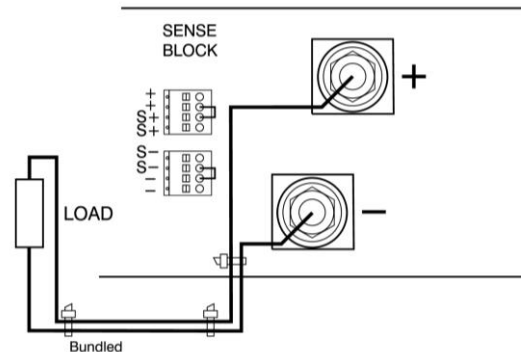

Figure 7.4: Local sensing with the power cables bundled close together to minimize inductance.
- For local/ internal sensing (sensing at power terminals of the unit), check whether there is a link between + and S+ and between – and S– on the sense header (default), see Figure 7.4.